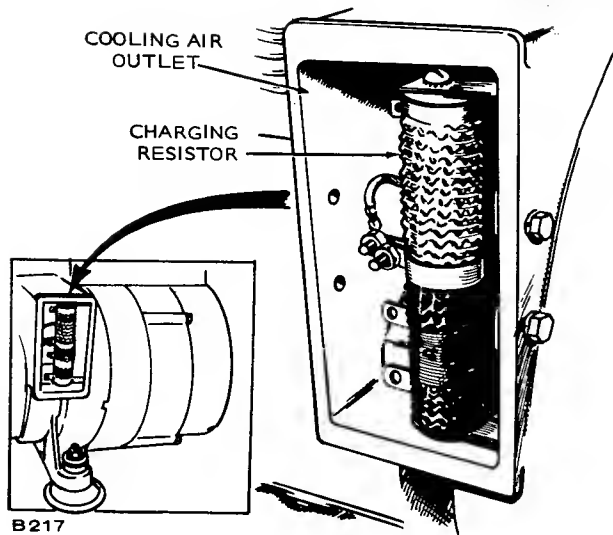

FIGURE 19. GENERATOR AIR OUTLET
3. Remove B¹ lead from tapped adjustable resistor in generator air outlet opening, Figure 19.